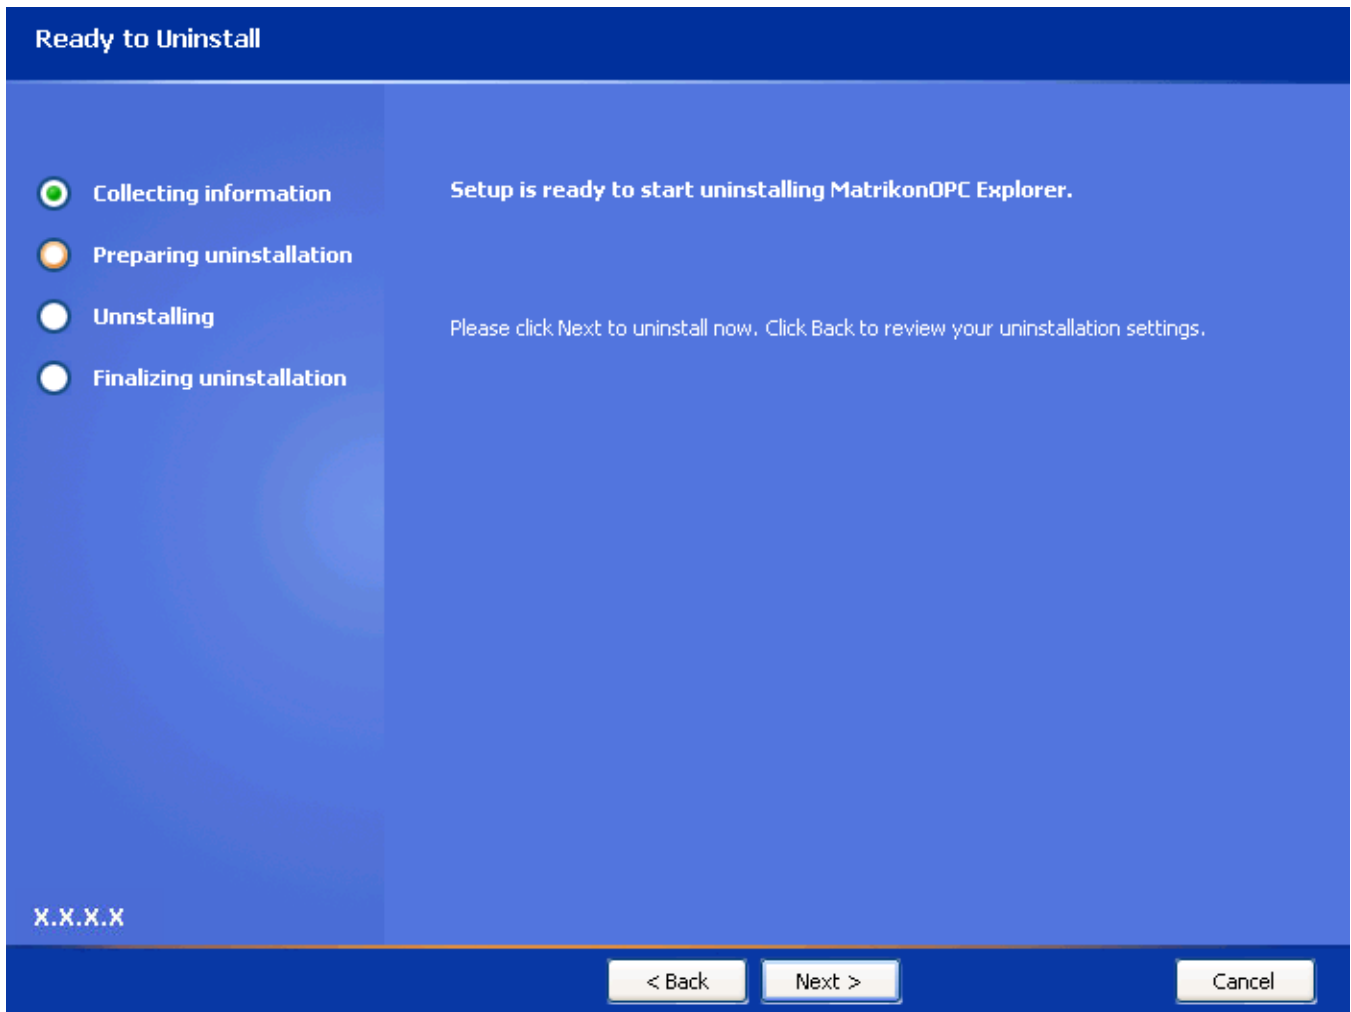

Figure 38 - Ready to Uninstall Screen
8. Click on the **Next** button. The **Ready to Uninstall** screen (Figure 38) is displayed.